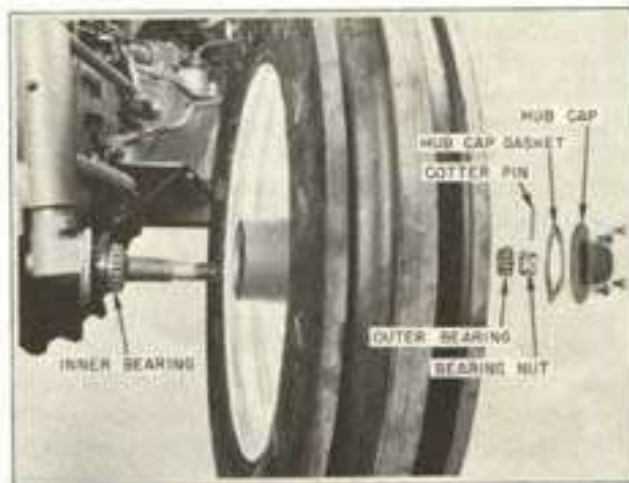

Figure 9-4 Packing Front Wheel Bearings
2. Remove the hub cap mounting cap screws and remove the hub and gasket. (See Figure 9-4.)
7. Apply a liberal coating of grease on the bearings and assemble the wheel, packing the hub with approximately 3/8 pound of multi-purpose No. 1 grade lithium or calcium base grease. (See Figure 9-4.)